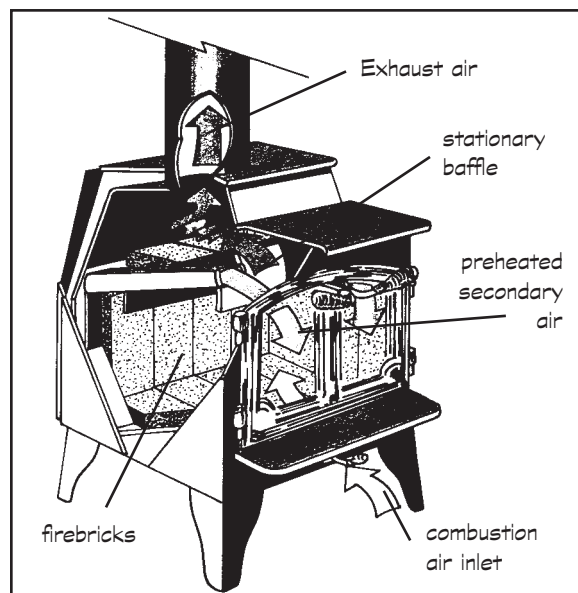

Figure 3
**High tech non-catalytic wood stoves.** Many EPA certified stoves achieve high rates of combustion without a catalytic combustor. Non-catalytic stoves (Figure 3) are slightly less efficient, with ratings from 63 to 75 percent, and they often require more frequent refueling. They offer advantages, however: a wider choice of fuel can be used and there is no need to replace a catalytic combustor. A “non-cat” stove offers the following features: